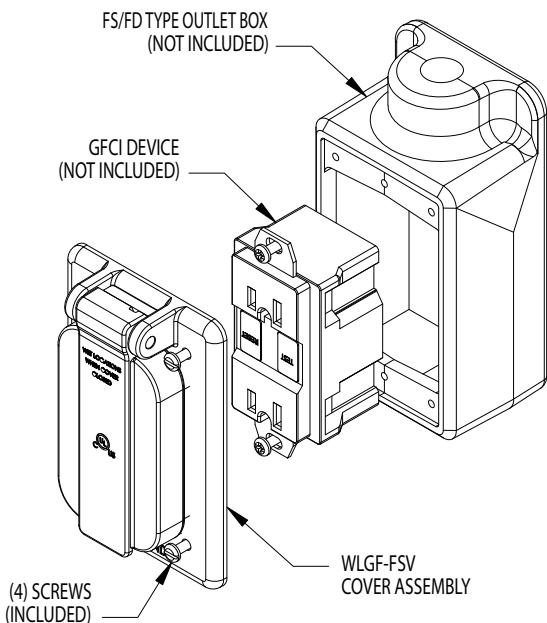
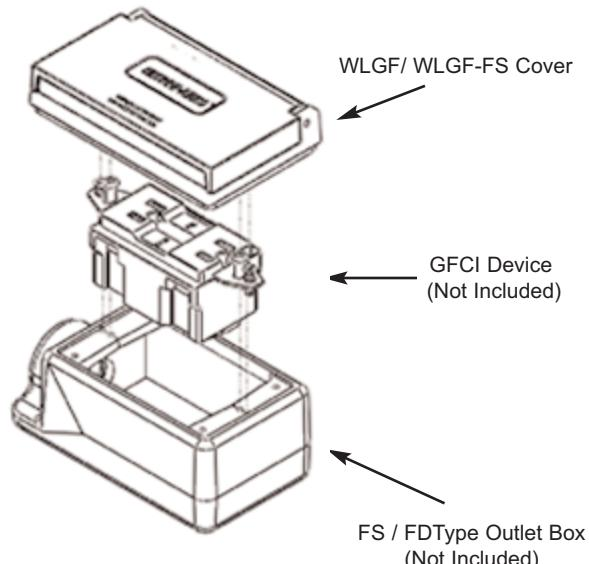

Figure 1 - Typical Assembly
Figure 2 - Typical Assembly
This cover assembly is intended for areas subject to saturation from water or other liquids (see description for "Wet Location" and "Damp Location" in the National Electric Code). The cover must be mounted with the hinge at the top. Cover assembly includes: cover, door, gaskets, hinge spring, hinge pin, and mounting screws (see Fig. 2).
4. Position cover assembly on box (see Fig. 1 and Fig. 2) and secure cover to outlet box with (4) screws provided (2 screws for WLGF).